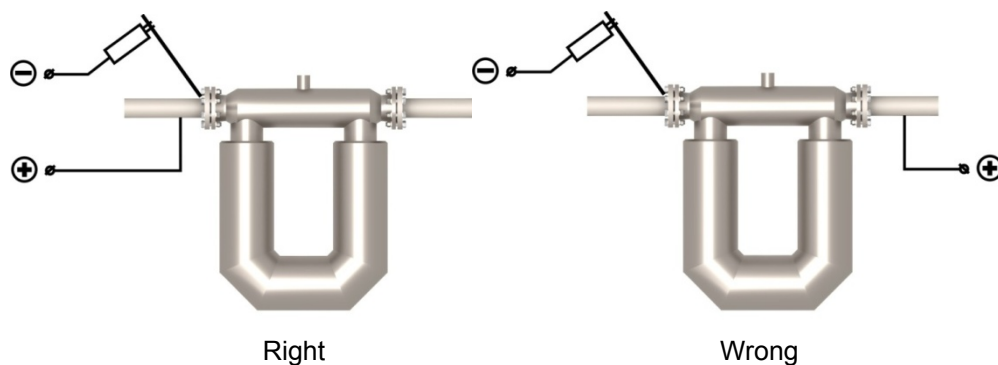

Figure 2.3 Connecting the power source for arc welding using the flowmeter
- when installing using an electric arc welding the power source is connected in a way that prevents the welding current to run through the flowmeter - see Figure 2.3.